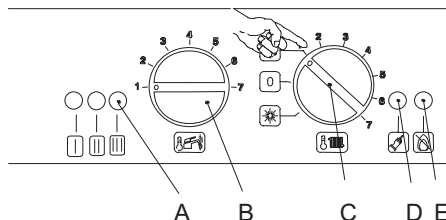

Figure 15.3
- Turn the function selector B as in Fig. 15.3. The appliance operation light A will flash every 2 seconds.
To reset the boiler turn the knob C (figure 15.3) on the 0 position and then press and release the boiler reset button D (Fig. 15.3).
With the burner on high flame close the gas cock. After three ignition attempts (within about three minutes), the lock-out signal lamp must appear (D on Figure 15.3). To reset the boiler turn the knob B (figure 15.3) on the 0 position and then press and release the boiler reset button (C on Figure 15.3).